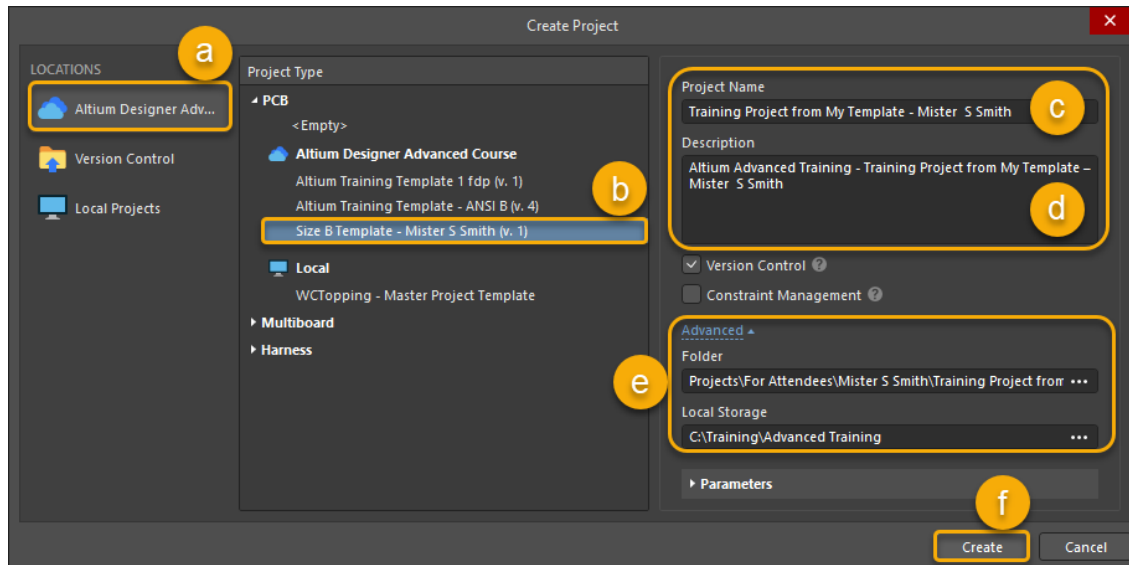

Figure 26. Creating a New Project
99. Go to **File » New » Project...** to launch the *Create Project* dialog, Figure 26.
100. Use Figure 26 above as a reference for the following steps. You might see the **Constraint Management** option that won't be used for this project.